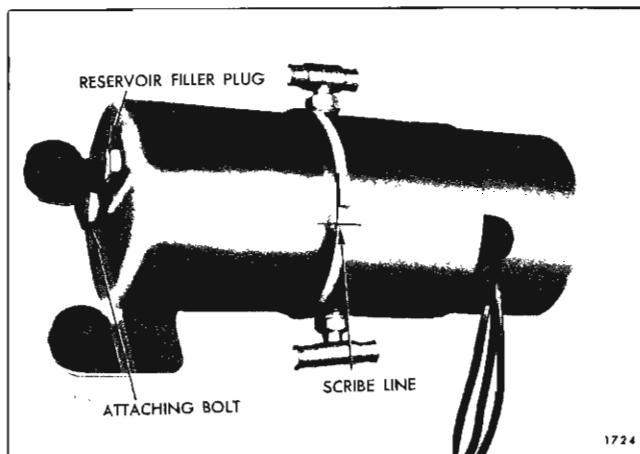

Fig. 1-I-62—Hydro-Lectric Motor and Pump Assembly
2. Scribe a line across pump end plate and reservoir tube to insure a correct assembly of parts. See Fig. 1I62.